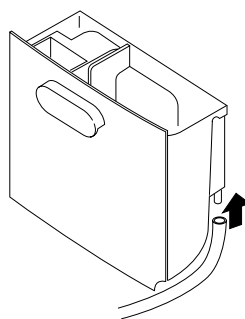

Fig. 2
- 4) Insert a 10 mm diam. hose into the spout (Fig.2)